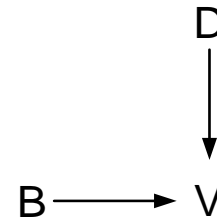
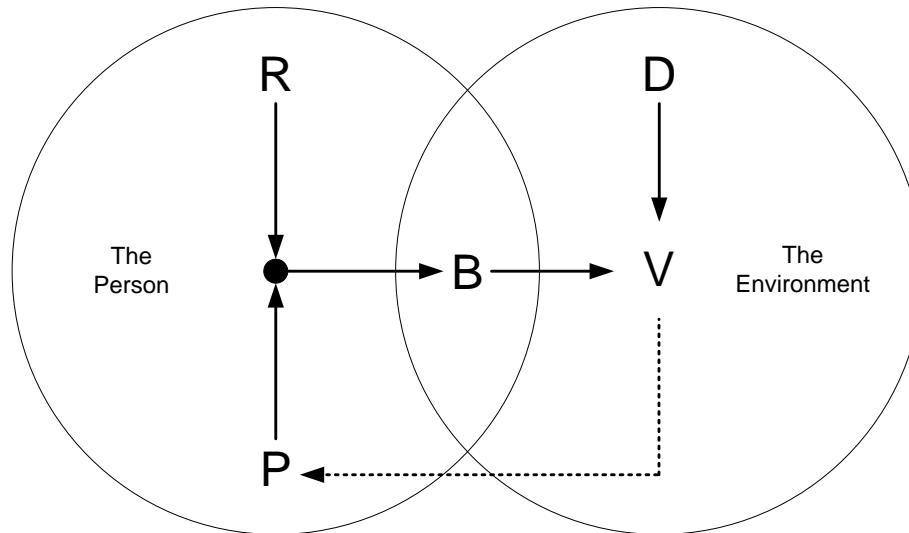

Figure 1
Figure 3
These three elements of PCT – controlled variables, behaviors and disturbances are depicted in Figure 1.
Combining the two models shown in Figures 1 and 2 yields a third model shown in Figure 3. This model couples the two previous models via the lines entering and leaving Behavior (B) and the dotted line indicating feedback in the form of Perceptions (P) of the variable we are trying to control (V). The model in Figure 3 also uses overlapping circles to identify and distinguish between the person and that person's immediate environment.